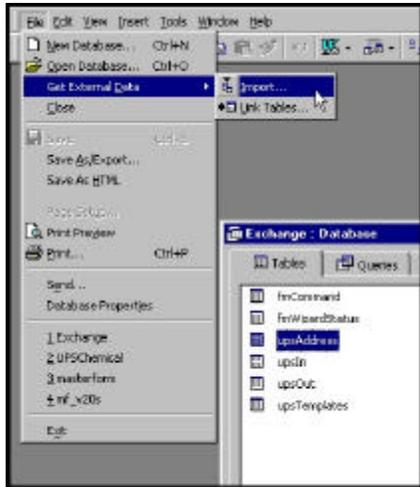

Figure 22: Select Get External Data > Import from the File menu.
- (a) Select **Get External Data** from the File menu. You should see two options when you select Get External Data: "Import" and "Link Tables." Select Import as shown in Figure 22.